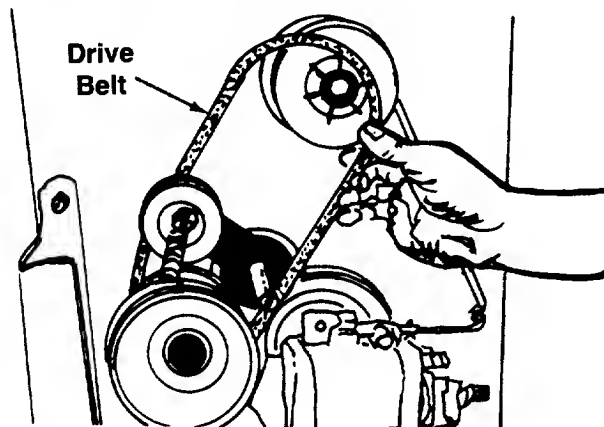

FIGURE 33.
9. Remove and replace the "V"-belt. See figure 33.